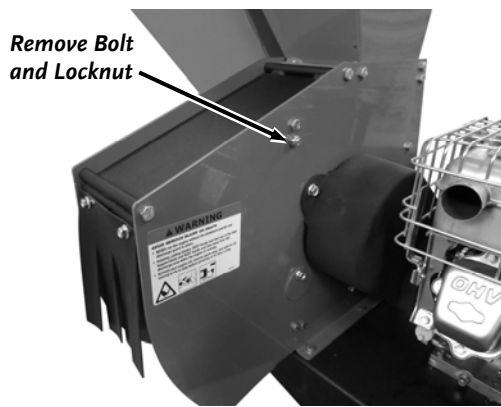

Figure 26
1. Remove the top Screen Bolt and Locknut using two 1/2" Wrenches (**Figure 26**).